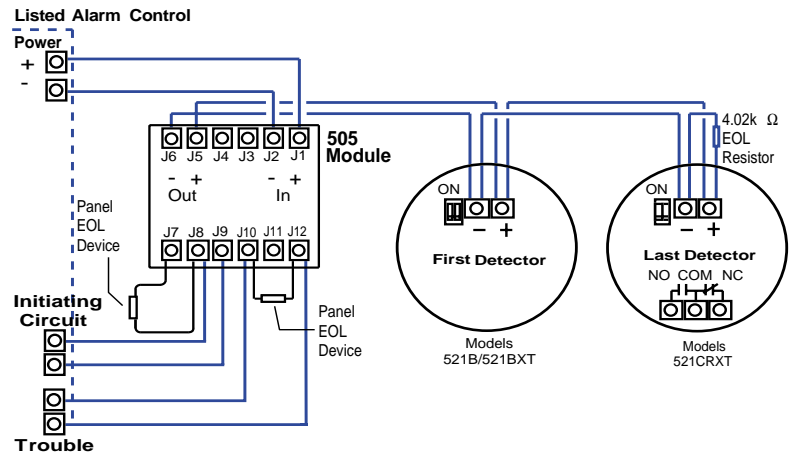

Figure 3 - Module Wiring
The separate panel zone should be identified as smoke detector trouble. See Figure 3 for wiring information.
1. Install module wiring in accordance with the appropriate installation application. See Figures 3, 4, and 5.